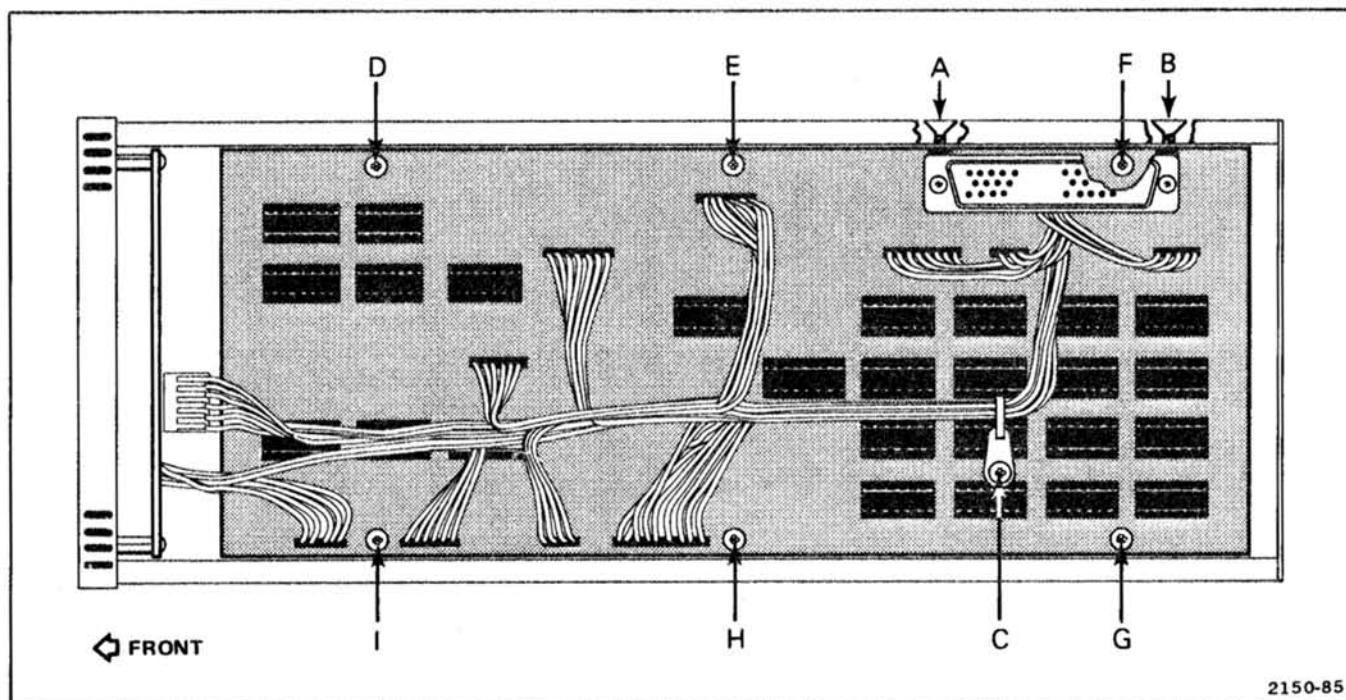

Figure 4-9. Locations of securing screws and hardware mounting screws on A4 Acquisition circuit board.
1. Remove 3 screws (A, B, and C on Fig. 4-9).